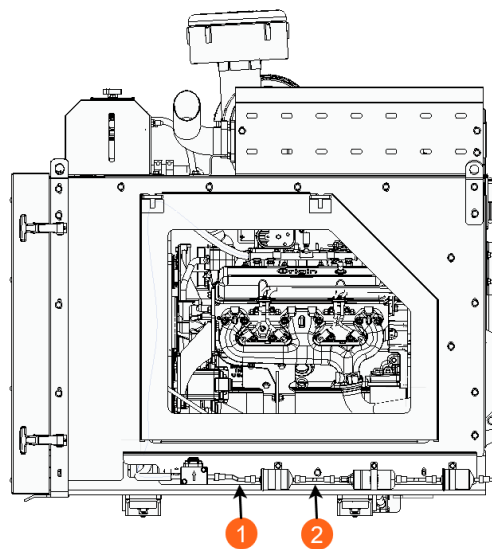

Figure 8
- 16) Connect tubes to the fuel pump and block manifold. See Figure 8.